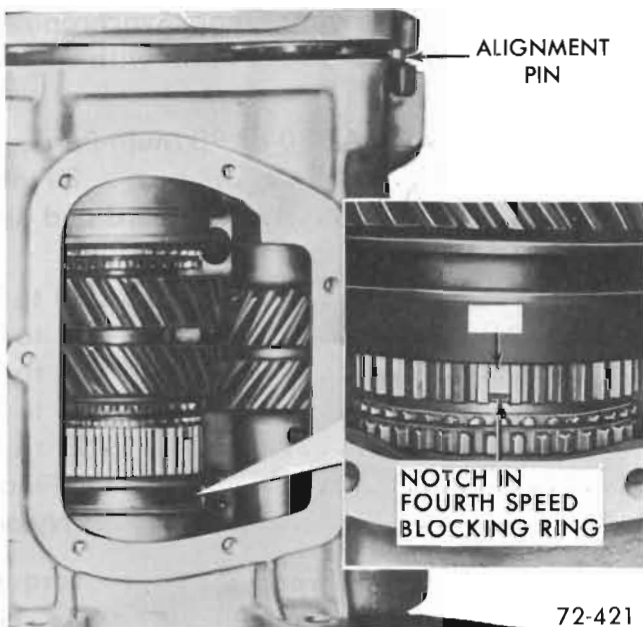

Figure 72-58 - Installing Mainshaft Assembly
11. Lower mainshaft assembly into case making certain notches on fourth speed blocking ring correspond to keys in synchronizing assembly. See Figure 72-58.